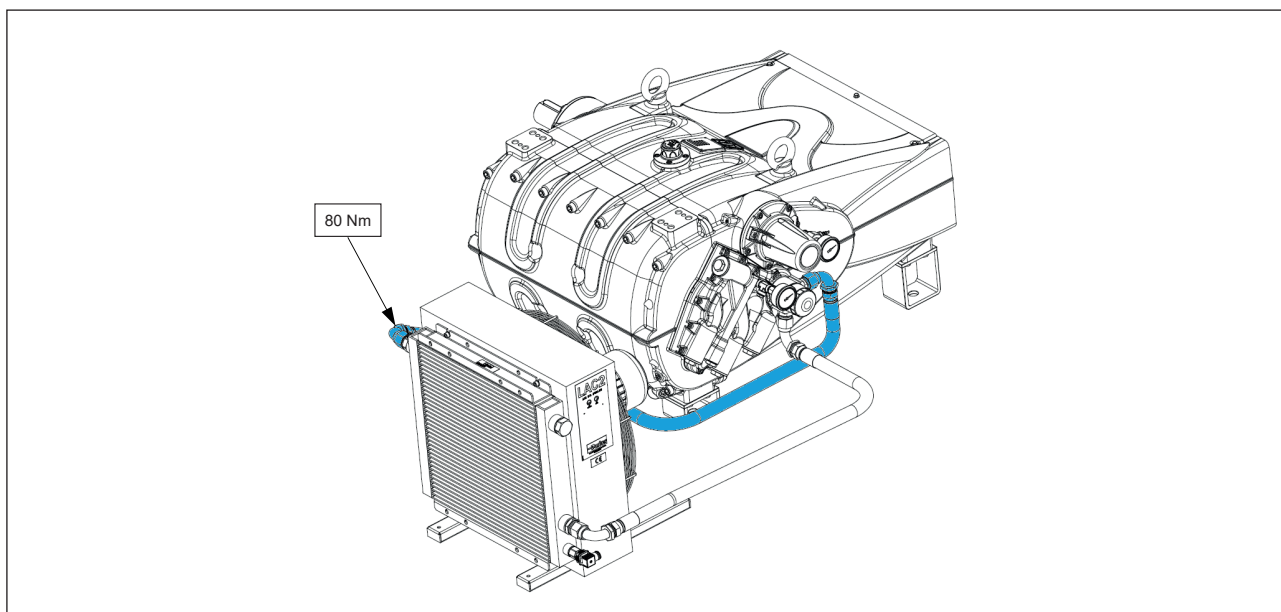

Fig. 16
3. Then connect the second pipe by means of the 90° bend to the fitting located at the outlet of the exchanger, located on its opposite side of the pump (see fig. 16). Tighten to 80 Nm torque.